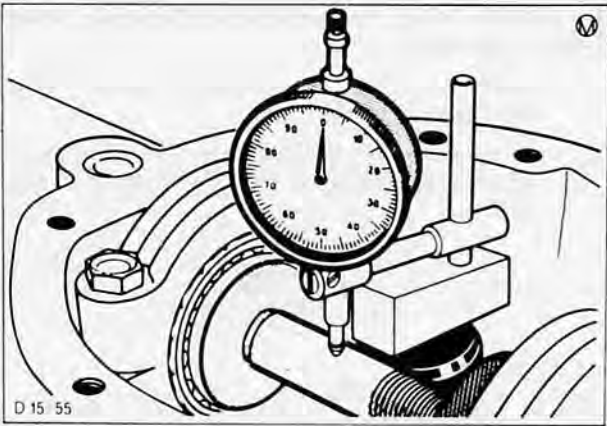

Fig. 117. Dial indicator zeroed (max. discrepancy 0,01 mm)
27. Re-check zero setting of dial indicator in mounting block with setting gauge and place mounting block on end of master pinion. If dial indicator plunger is now moved across the gauge bar as before (sub-operation 22), dial indicator must read '0' if preceding measurements were accurate. Discrepancies from '0' of up to 0,01 mm are permissible, Fig. 117.